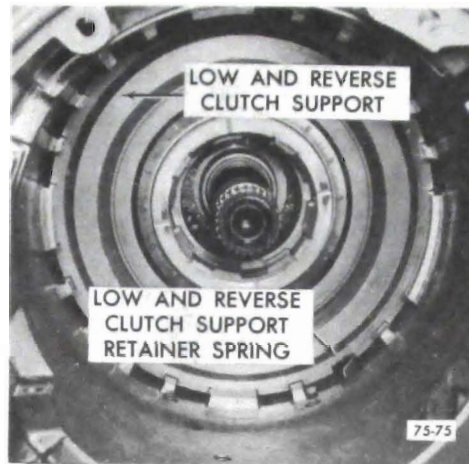

Figure 75-252
3. Install low and reverse clutch support assembly pushing firmly until support assembly is seated past top of low and reverse clutch support retainer spring and retaining ring can be installed. See Figure 75-252.